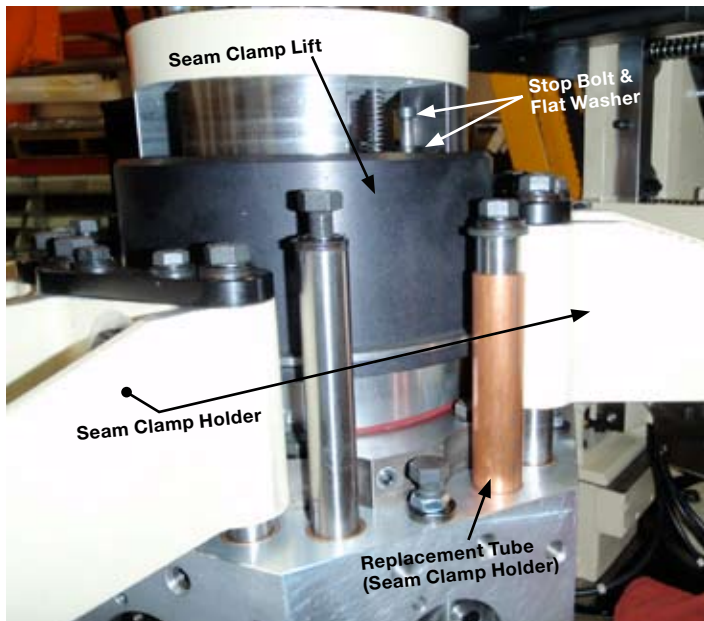

Figure 2
- 2) Remove all Seam Clamp Holders and replace them with tubing the same length as the Seam Clamp Holder, as shown in Figure 2.